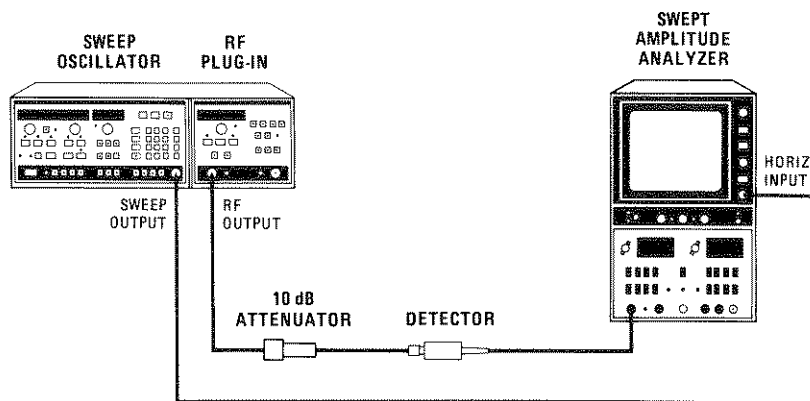

Figure 5-23. Internal Leveling Adjustment Test Setup
1. Connect equipment as shown in Figure 5-23, with the 8755C monitoring the RF output. Select 8350A \square MOD. Sweep the full range of the Plug-in.